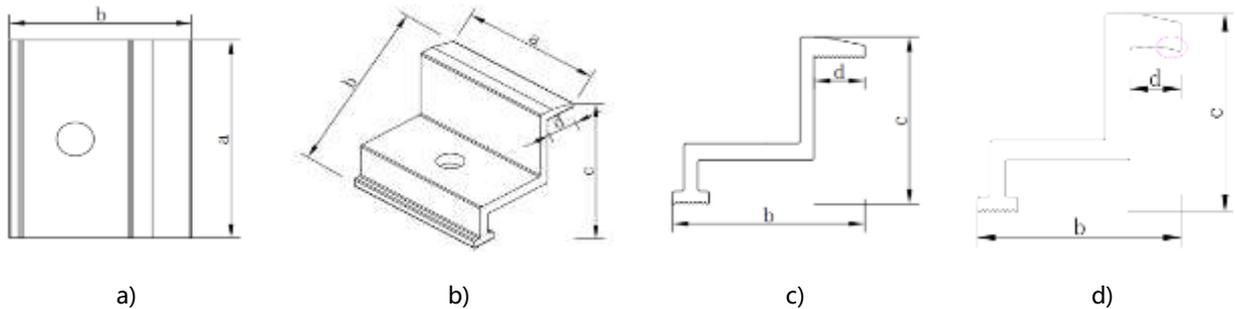

Figure 6 Recommended clamp schematic
The clamps must not be installed in contact with the front glass of the module and must not deform the module frame. Recommended clamp schematic shown as followed (see Figure 6). Ensure that the clamps do not create a shadow on the module. Under no circumstances may the frame be altered. When choosing the mounting method for the clamps, make sure that there are at least four clamps on each module. Different mounting positions of the clamps determine the maximum load capacity of the module.
- Modules with a length greater than 2.2 m and a width greater than 1.3 m are recommended to be mounted with the camber clamps shown in Fig. 6 d), which enables the clamps to fit better with the frame and provide more stable performance under extreme environmental conditions.